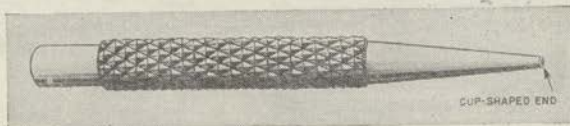

FIGURE 22.—Nail set.
c. Nail set (fig. 22).—Has a cup-shaped end and is generally used for driving the small heads of finishing nails, brads, and casing nails